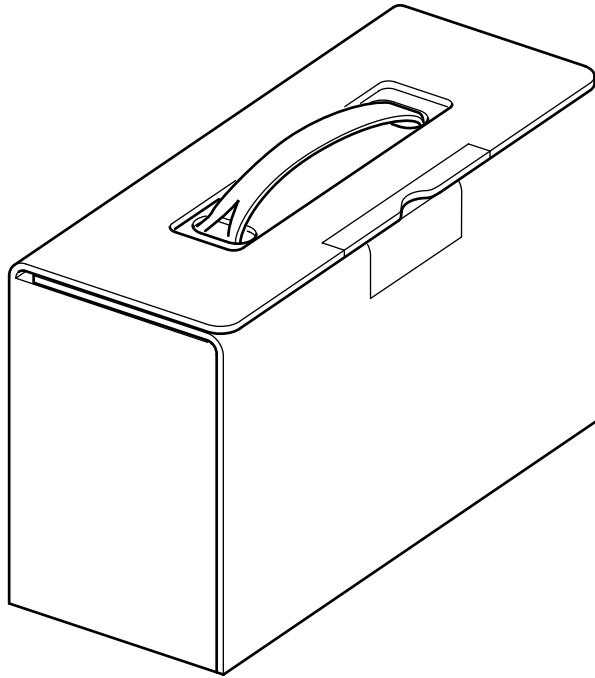

**Fig. 4**
- 4 Fig. 4 shows a special edition CD case made from board and plastic.